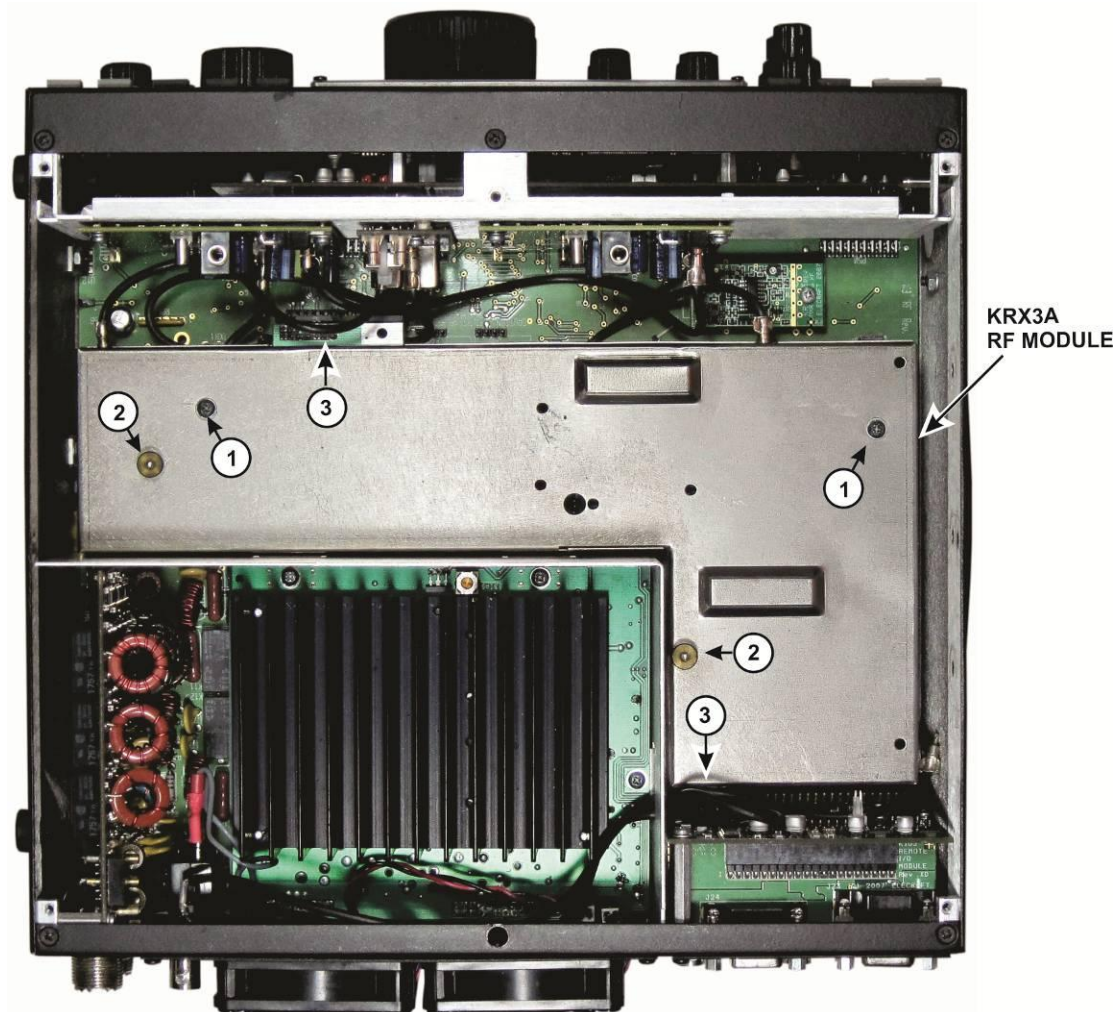

Figure A-4. Removing the KRX3A RF Module.
The crystal (roofing) filters in the KRX3A sub receiver are contained in the L-shaped RF module mounted above the main K3S or K3 RF board (see Figure A-4). Installing or changing the filters involves removing the RF module and the circuit board inside. The filters plug into the circuit board and are held in place by screws. No soldering is required.
- ❑ Remove the KRX3A RF module as follows. The circled numbers refer to Figure A-4 below.
- Remove the two long screws (1) that attach the KRX3A enclosure to the K3S or K3 main board.
- Grip the knurled nuts (2) and lift the KRX3A enclosure up and out of the K3S OR K3. The enclosure will unplug from two interface boards (3), one near the front and the other at the back. Also there will be two coaxial cables attached to the forward edge and usually one cable attached at the back of the enclosure. Carefully unplug these cables holding onto the metal finger grip, not the black coax. The connectors are held by friction and slide apart. They do not unscrew.
- ❑ Remove the two small interface boards (3) that plug into the board on the bottom of the K3S OR K3 and the KRX3A enclosure. The boards may still be attached to the main board or may be attached to the connectors on the KRX3A RF module. Set them aside in an ESD-safe place.
- ❑ Place the KRX3A RF enclosure on your work table. Remove the two knurled nuts (2) and lift the top half of the KRXA3 RF enclosure off of the lower half